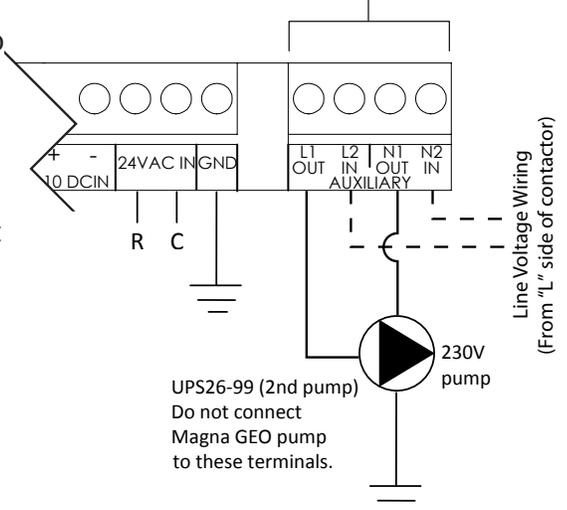

Figure 2: High Voltage to 2nd Pump (Variable Speed Flow Center Only)
**HIGH VOLTAGE WIRING, second (3-speed) pump:** If a second pump is installed, the second pump must be wired to the Grundfos controller, so that the relay in the controller can engage/disengage the pump based upon heat pump operation (for example, first or second stage operation/flow rate). Refer to Figure 2 for wiring. Run high voltage wiring from the “L” side of the compressor contactor to the Grundfos controller terminals. Run wiring from the controller to the second pump. Wiring must meet applicable code requirements, including requirements for wire protection, such as conduit. Wire size must be at least 14 AWG copper conductor.
Low Voltage Connection at Flow Center Panel (see Figure 2)	Heat Pumps with Communicating UPM Board*